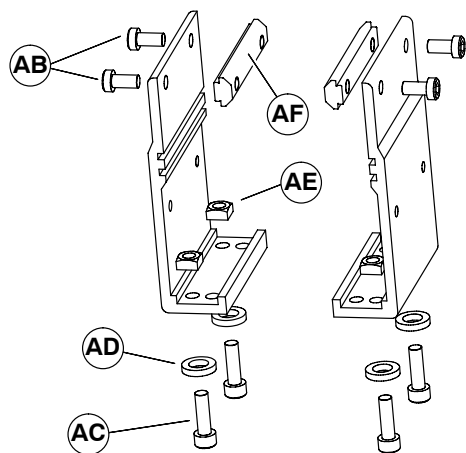

Figure 9
5. Slide belt (Q of Figure 9) over assembled conveyor sections (AA).